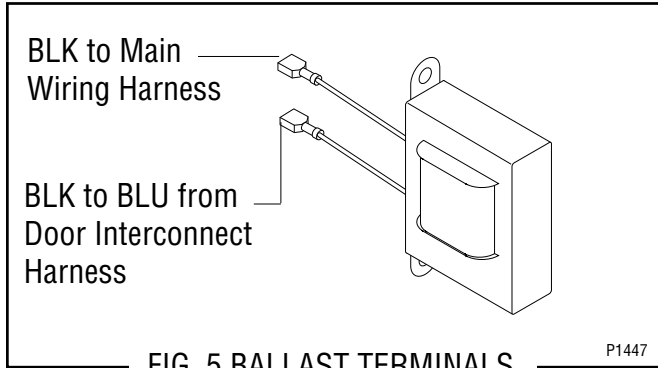

FIG. 5 BALLAST TERMINALS
5. Refer to the Fig. 5 when reconnecting the wires.